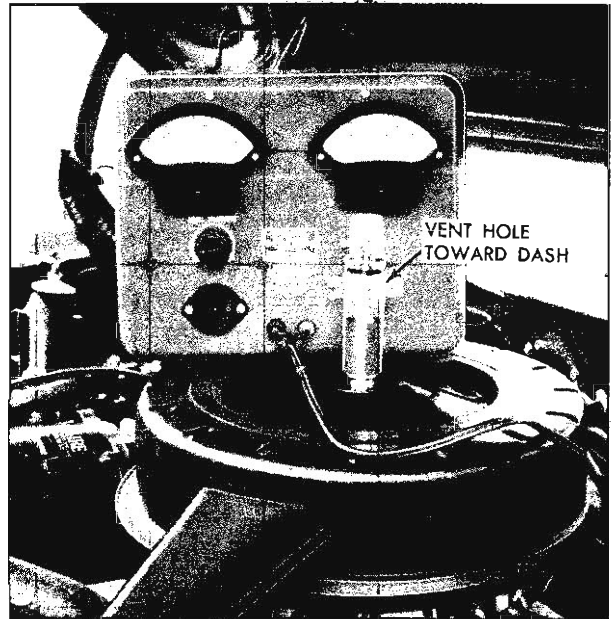

Fig. 19—Tool Installed on Air Cleaner (Typical)
1. Remove the wing nut and washer (if used) from the air cleaner cover stud, then screw Tool J-7825 onto the stud until it seals tightly against the air cleaner cover. Rotate the entire tool so that the scale can be read from the left side of the car. Be sure the vent hole is toward the dash (fig. 19).
2. Connect a tachometer and place it so that it may be read simultaneously with Tool J-7825 (fig. 19).